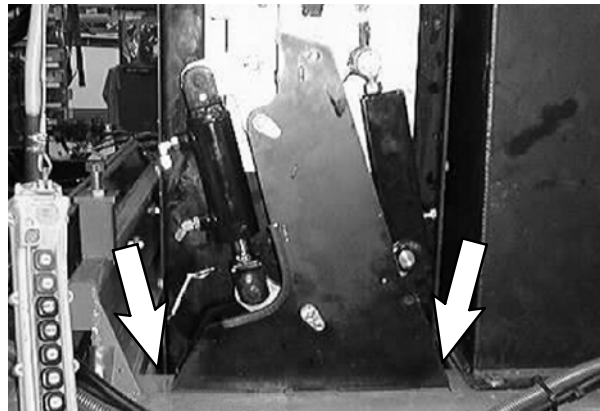

FIG. 3
4. Loosen and slide back the conveyor seal strips located at the bottom front and top rear of the conveyor frame. Refer to Fig. 3.